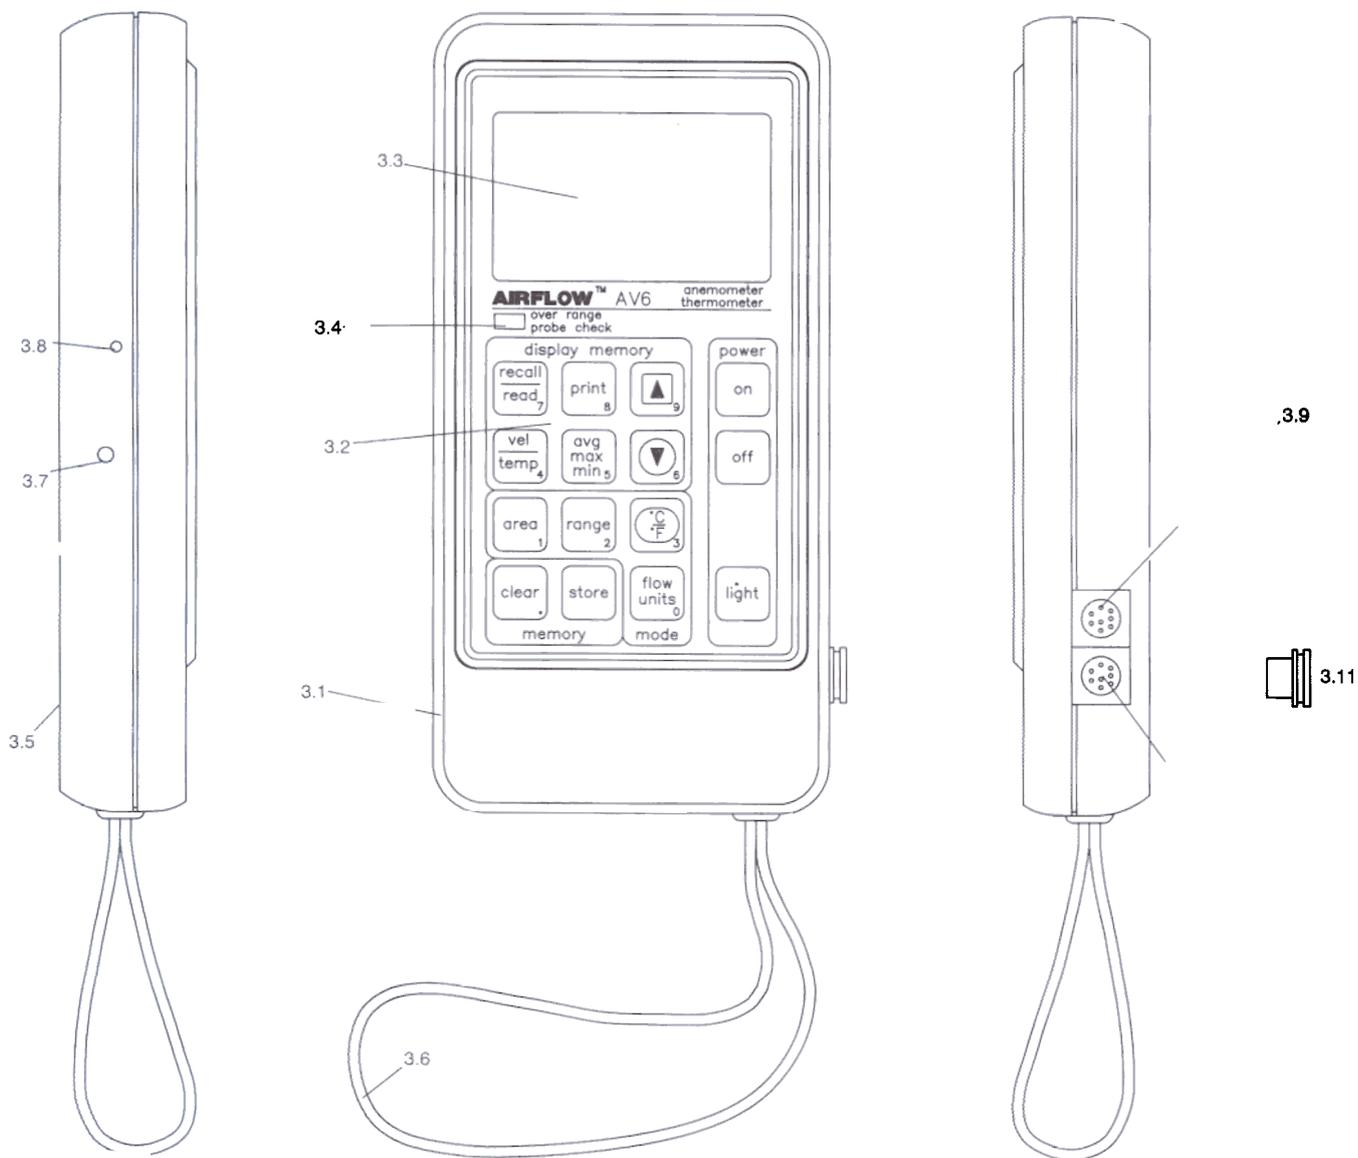

FIG 2 - AV6 INSTRUMENT
2.2 Battery eliminator: connects via the 2.5mm jack socket (item ref. 3.8 FIG.2). Supply requirements are 6 volt d.c. at a minimum current of 100mA with the jack tip being supply +ve. Airflow can supply a suitable unit under Part No's 9020897 (for 3-pin UK version) or 9020855 (for 2-pin European version).
3. DESCRIPTION OF THE INSTRUMENT (refer to diagram FIG.2).
- (1) Connect the Vane Anemometer to its socket (FIG 2 item 3.9). **Ensure that plug is orientated correctly.**